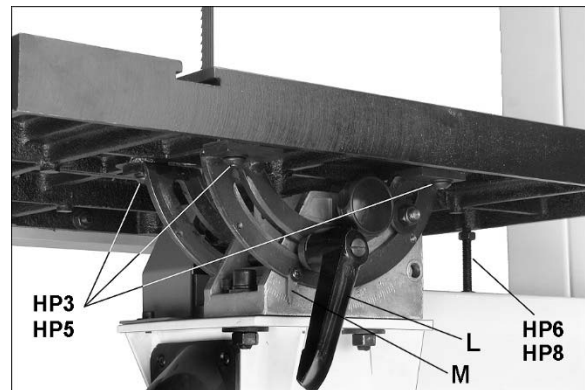

Figure 5-5: table installation
5. Line up table to trunnion slots and insert screws and washers (HP3/5, Figure 5-5). *Only hand tighten screws at this time.*
10. When parallelism is achieved (and blade is still centered through table insert), securely tighten the four trunnion screws (HP3, Figure 5-5).
11. Insert stop screw with nut (see HP6/8, Figure 5-5) into table.
13. Loosen lock handle (L, Figure 5-5) and manually tilt table until table and blade are square.
14. Tighten lock handle (L).
16. If needed, loosen screw and move pointer (M, Figure 5-5) to align with zero on scale. Retighten screw.